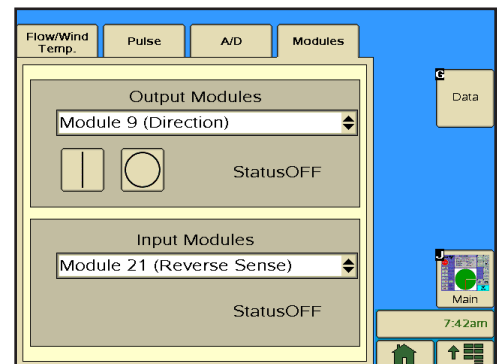

Figure 91-4 1. Modules Tab
- MODULES - Review the status of selected relays. A relay is considered a module. Refer to Figure 91-4.